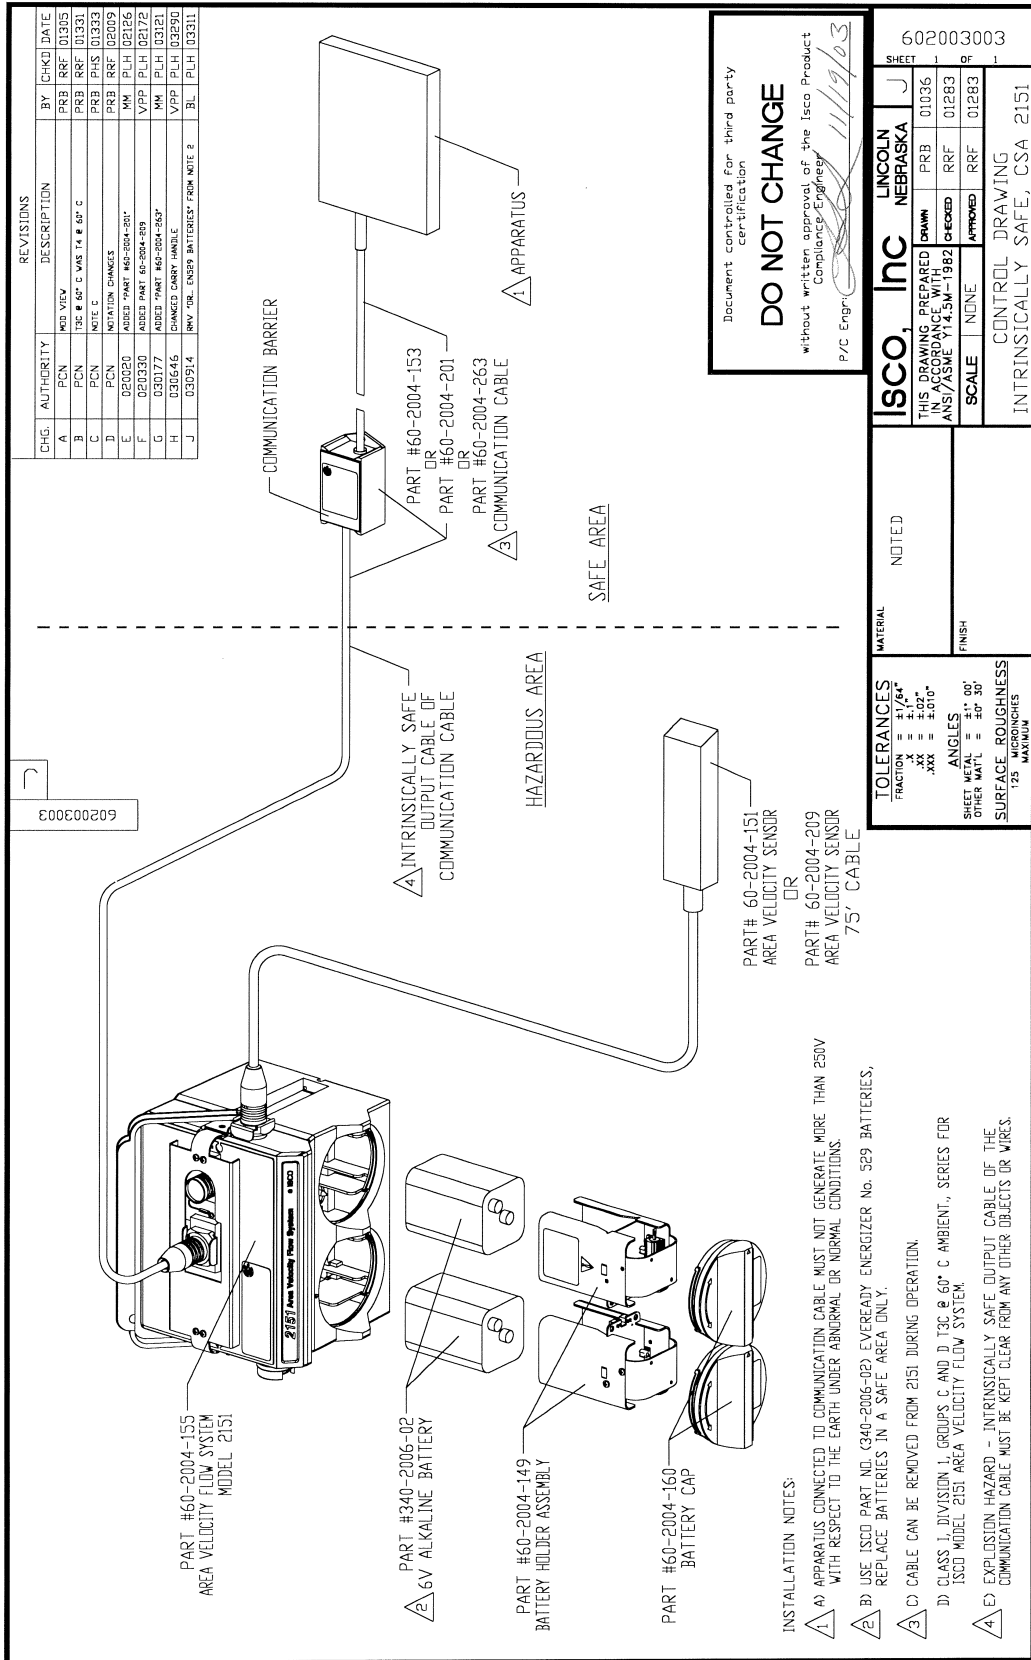

Figure 2-2 Installation Drawing for the 2151 Area Velocity Flow System
- a. Install the 2151 system (2.4.4 and Figure 2-2).
To maintain intrinsic safety, the 2151 System must be assembled and installed as shown in Figure 2-2.
4. Route the communication cable as shown in Figure 2-2, so that the communication barrier is in a safe area.